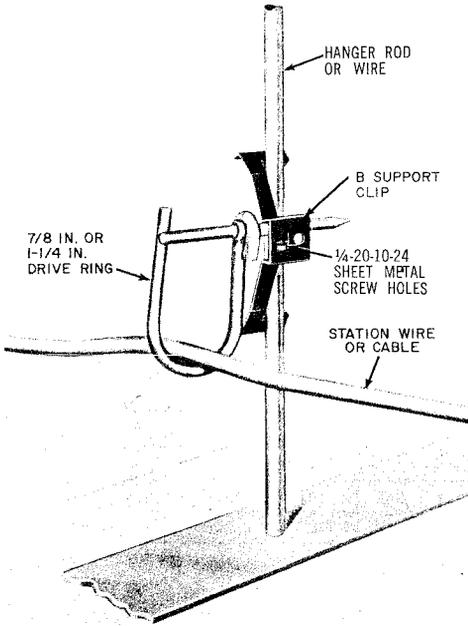

Fig. 4 - B Support Clip
**3.05** *The B Support Clip* (Fig. 4): provides a means of attaching Drive Rings to hanger rods and wires used in false ceiling construction or to the flanges of structural steel framework. It replaces the B Beam Clip.